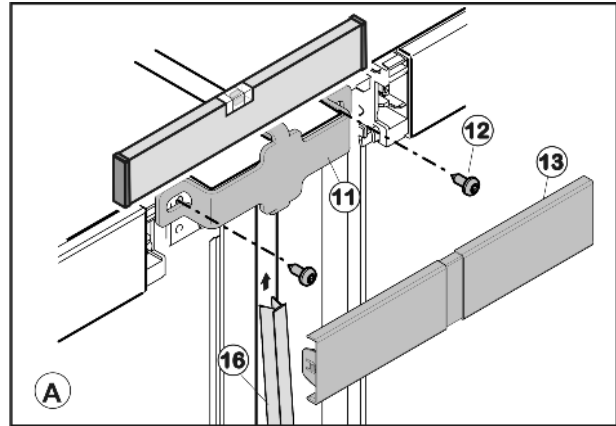

Fig. 44
- Secure upperconnecting element Fig. 44 (11) using two screws Fig. 44 (12). Make preliminary holes (optional) or use a cordless screwdriver.
- Clip on cover panel Fig. 44 (13).
- Fit strip Fig. 44 (16), push it slightly under the top cover Fig. 44 (13) and then press it downwards into the gap.